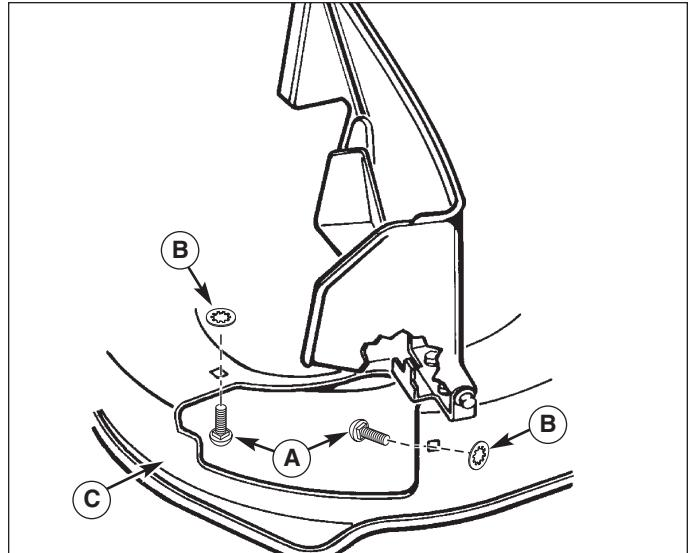

Figure 4. Install Mounting Plate
1. Secure the 5/16-18 x 3/4 carriage bolts (A, Figure 4) onto mower deck housing (C) using 5/16 push nuts (B).